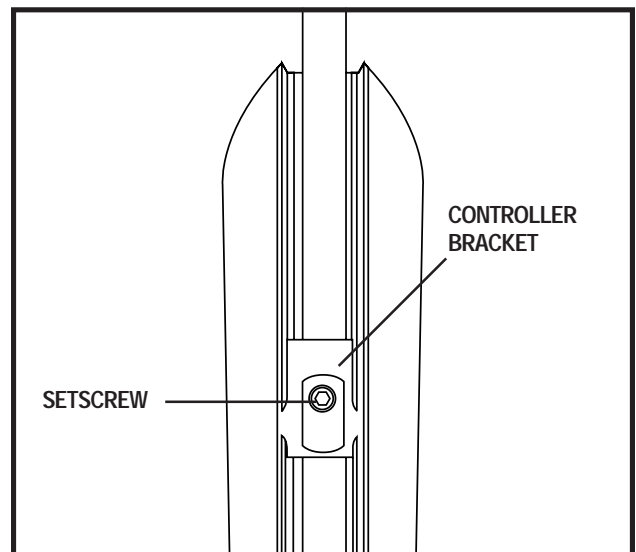

Figure 23. Controller Extension
2. Loosen the setscrew on the controller bracket. See figure 23.
4. Flip up the armrest and loosen the setscrew. See figure 23.